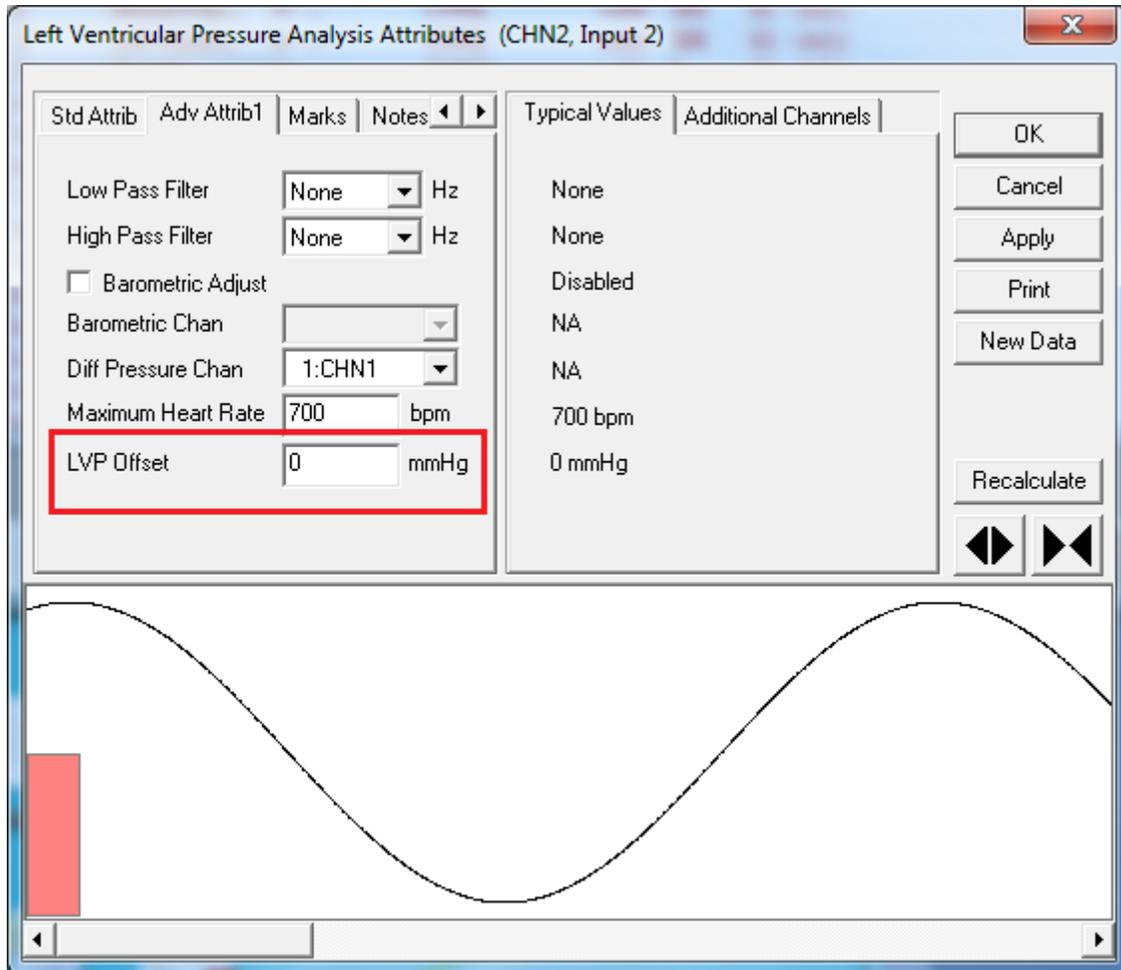

Figure 3: LVP Manual Offset
2. In the LVP Analysis Attributes window, go to the Adv Attrib1 tab. At the bottom there is a text box for the offset. Manually enter the offset (refer to Figure 3) that was recorded onto the lab sheet earlier.